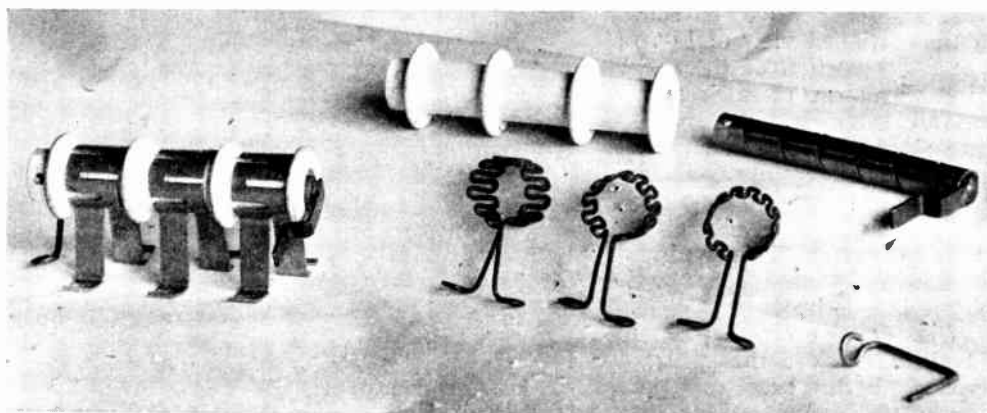

Fig. 18.— THE THERMAL RELAY AND ITS COMPONENT PARTS. (B.T.-II, Co.)
Over-current protection and delayed action of the over-current releases is obtained by thermal relays. These relays can be seen in Fig. 15 between the push-buttons and the "on"-"off" indicator, and details are shown in Fig. 18. The essential parts are (1) three heating elements (B, Fig. 18), one in each supply line,
TABLE V. TIME LAG CHARACTERISTIC OF THERMAL RELAY. (Fig. 18).